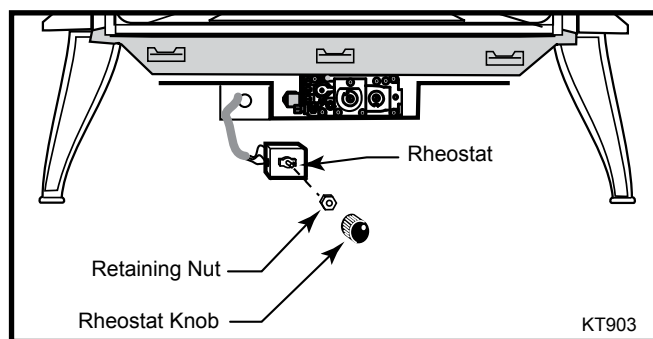

Fig. 17 Attach rheostat to bracket.
- Insert the switch box shaft through the hole in the back of the left side of the panel, aligning the locator pin with the smaller hole in the panel. (Fig. 17)